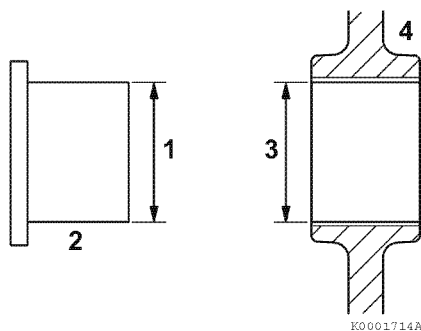

Figure 6-81
1. Measure the outside diameter (**Figure 6-81, (1)**) of the idler gear shaft (**Figure 6-81, (2)**). See *Idler Gear Shaft and Bushing on page 6-8 for specifications.*
2. Measure the inside diameter (**Figure 6-81, (3)**) of the idler gear bushing (**Figure 6-81, (4)**). See *Idler Gear Shaft and Bushing on page 6-8 for specifications.*